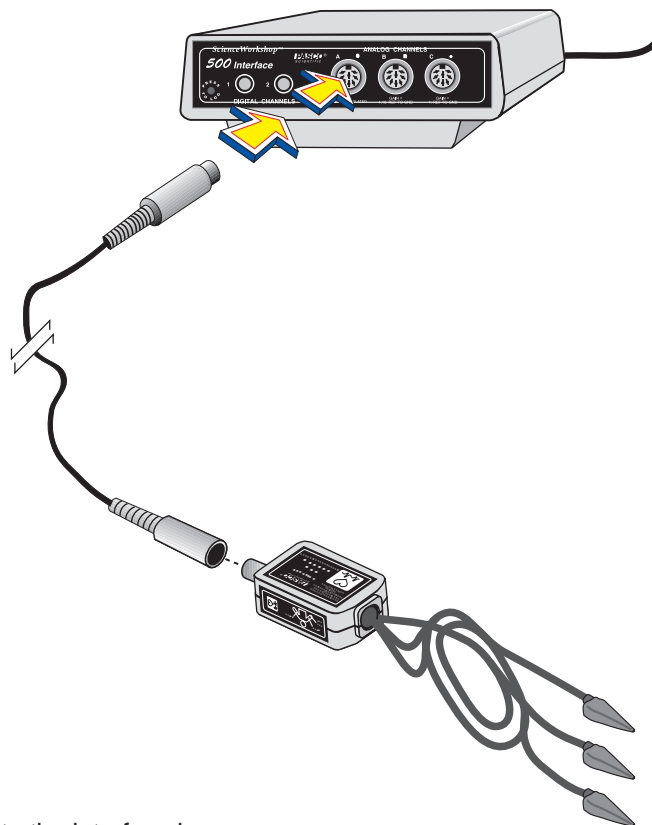

Figure 7
1. Connect the EKG Sensor unit to analog channel A, B, or C of the *Science Workshop* computer interface box using the cable with the DIN connectors (Figure 7). Alternatively, the unit can be plugged directly into the analog channel jack.